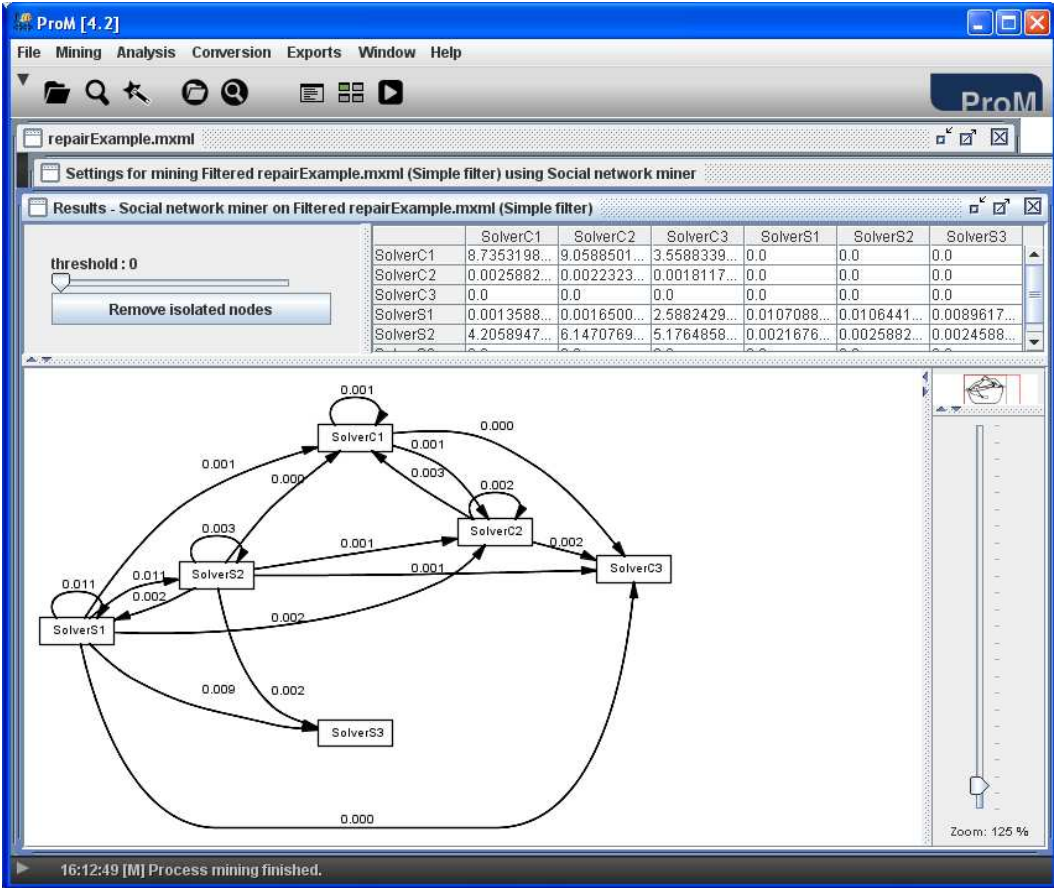

Figure 3.5: Screenshot of the mining plug-in *Social Network Miner*.
4. Select the tab *Handover of work*, and click the button *start mining*. You should get a result like the one in Figure 3.5. We could already analyze this result, but we will use the analysis plug-in *Analyze Social Network* to do so. This analysis plug-in provides a more intuitive user interface. This is done on the next step.